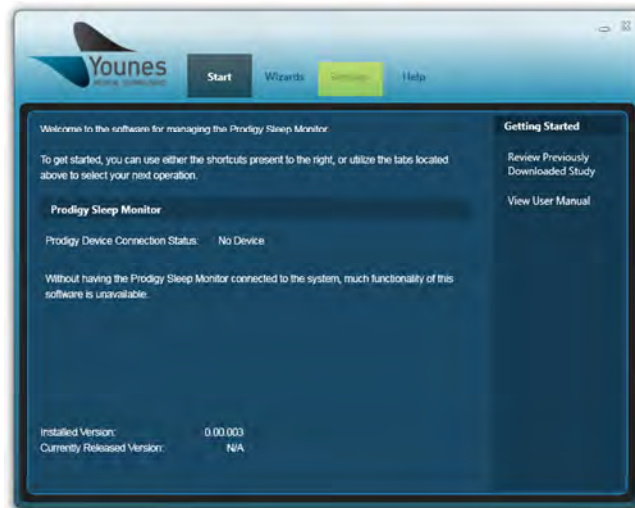

Figure 55 – Windows PC Prodigy Application Screen With “Settings” Button Highlighted
1. Launch the Prodigy Sleep Monitor application and click the “Settings” button highlighted in Figure 55.